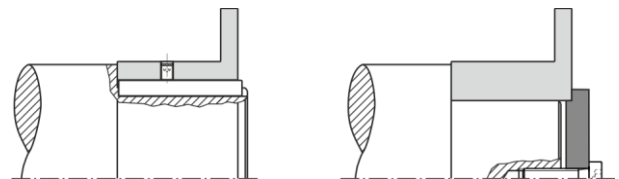

Fig. 5
- ❑ Mount the hubs (1/1.4) onto the shafts using a suitable device and secure them axially (Fig. 5). Axial securement takes place using a set screw (adjusting screw), which presses radially onto the key; or via a press cover and a screw, screwed into the shaft threaded centre hole.